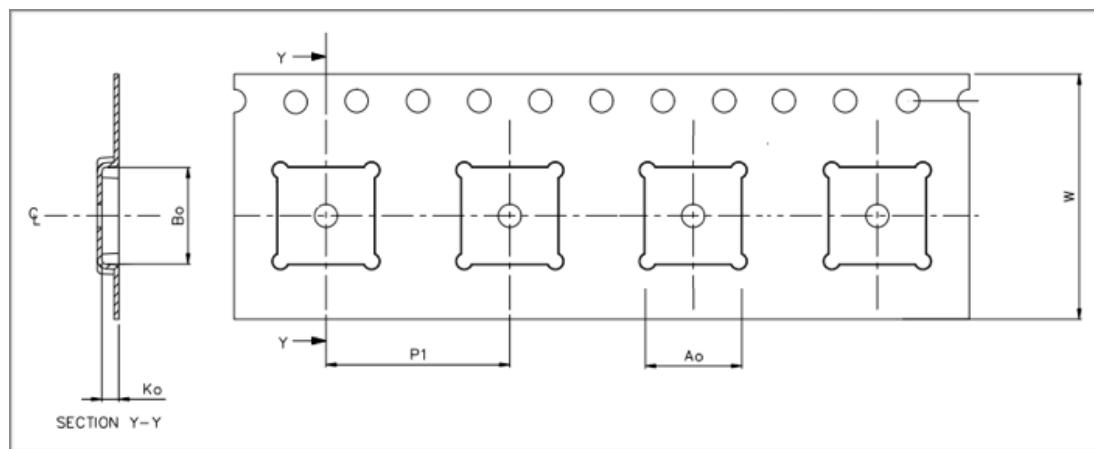

Figure 1-1. Carrier Tape Specifications
Figure 1-1 and Table 1-1 show the carrier tape specifications of typical Espressif modules.
3. The Figure 1-1 above is for illustration purposes only. Actual product may vary.
Figure 1-1 and Table 1-2 show the reel specifications of typical Espressif modules.